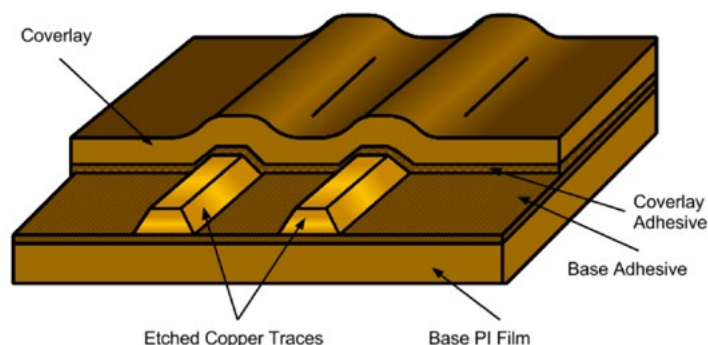

Figure 1: Single-layer FPC construction.
The most common method of flexible printed circuit production is to begin with polyimide (PI) film sheets, typically 2–4 mils in thickness, which are pre-coated with laminated or electro-deposited copper foil, on one or both sides. Laminated foil is adhered to the film using a thin (typically 2 mils) adhesive layer. The copper pattern on this flexible substrate is etched using the same process as rigid PCB substrates, using a photolithographic process. Figure 1 illustrates the construction of a typical single layer flexible printed circuit (FPC). After etching, additional adhesive sheets and PI film layers are laminated onto the FPC to protect the copper, known as coverlays.